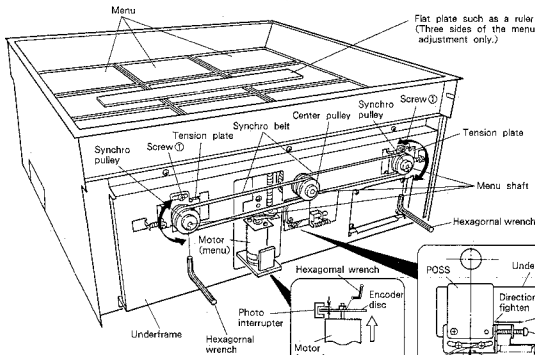

Fig. 7-1
- Three sides of the menu synchronous adjustment (Fig. 7-1)